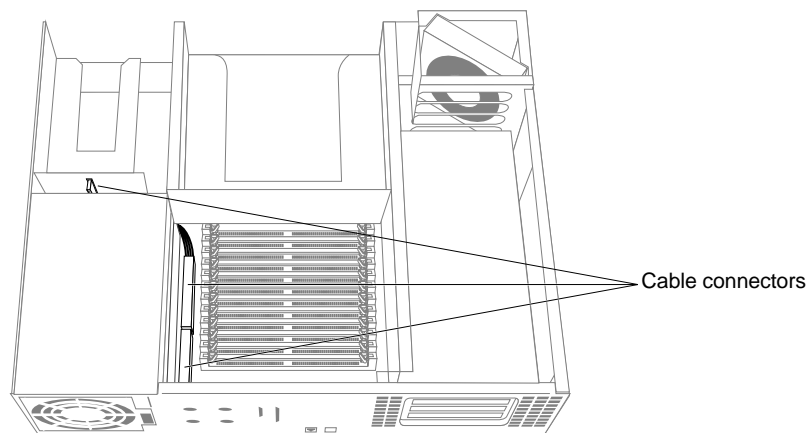

Figure 8-23 Locating the Three Power Supply Cables
5. Move the system, or position yourself so that you are facing the back of the system, as shown in Figure 8-23.
6. Disconnect the three power connectors, as shown in Figure 8-23.